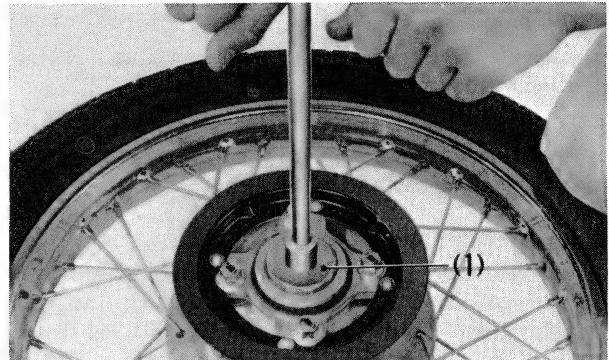

**Fig. 5-38** (1) Wood block
- Remove the 69 mm snap ring and remove the final driven sprocket as shown in Fig. 5-38.